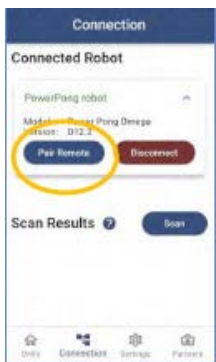

Figure 4-5
3. Press the Pair Remote button to begin the pairing process. (Figure 4-5)